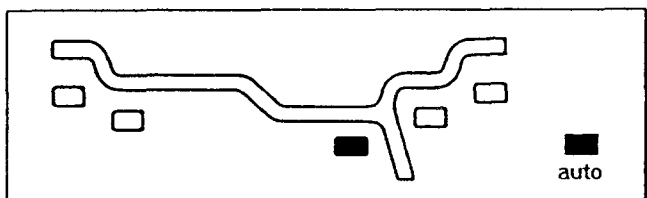

Fig.41
K. **AUTO STATIC** (one plane - Fig.41). Suggested for narrow car rims (3" or less). To enter the *Static* program press the **ALU** button and hold it for 3 sec). Do the same operation to return to the previous active balancing program.